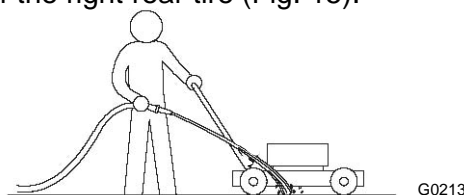

FIGURE 15
3. Hold the running garden hose a handle level and direct the water to flow on the ground just in front of the right rear tire (Fig. 15).